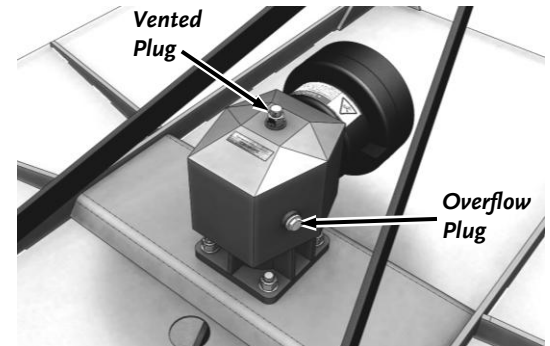

Figure 27
1. Remove the Vented Gearbox Plug from the top of the Gearbox using a 22mm Wrench (**Figure 27**).